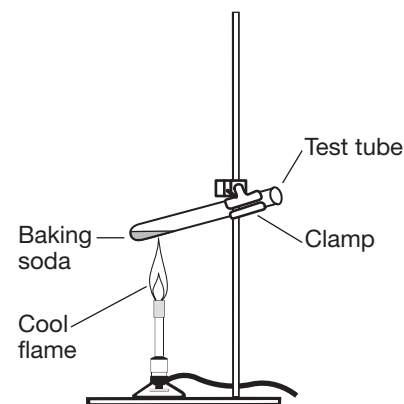

Figure 2.
- Tighten the test tube clamp securely around the test tube, just below the lip so that it is positioned nearly horizontally about 20 cm above the lab desk (see Figure 2).
- Light a burner and adjust it to a large cool flame hitting the bottom half of the test tube as shown in Figure 2. Record the time you started heating. _____ *Note:* This heat will initiate a chemical change (a decomposition reaction) that breaks the NaHCO_3 down, not into its elements but into three separate compounds.